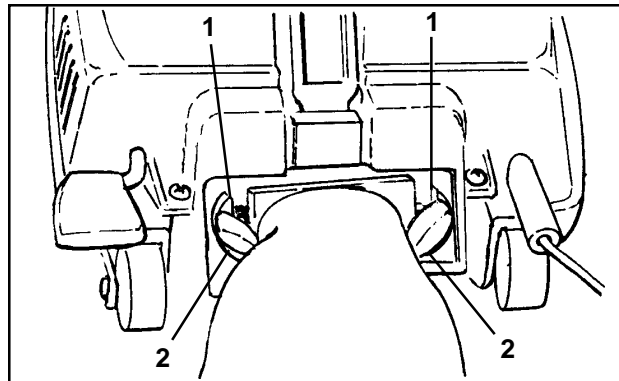

Figure 3
1. Loosen the knobs ( see figure 3, #1) at the rear opening of the housing.
2. Slide the bag adaptor opening (see figure 3, #2) up and around the knobs.